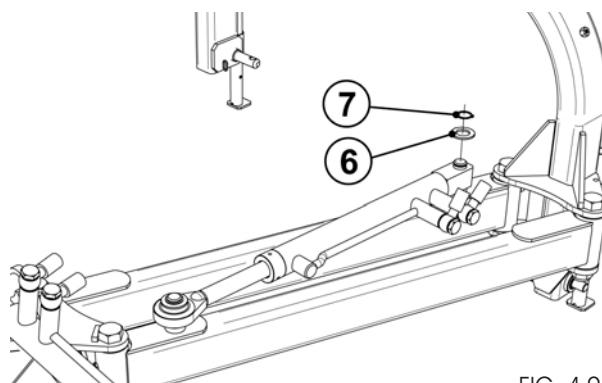

FIG. 4.9
- Open the arm (A) with help from a hoist attached to the arc. During this arm assembly operation (B), keep the arc tightly fastened to a hoist using chains (or straps). Remove the pins (4) from the arm housings on the shredder rotation attachment and the arc attachment. Insert the arm inside the arc attachment and the shredder rotation attachment and then insert the respective pins (4) and nuts (5).
- Assemble the arm movement hydraulic ram in the corresponding pin in the arm (B), and then insert the flat washer M22 (6) and the snap-ring 22 (7) provided (FIG.4.9).